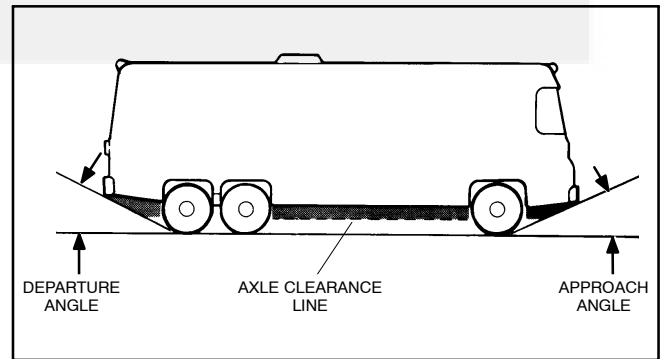

FIGURE 7-8. VEHICLE CLEARANCES
⚠ WARNING ***EXHAUST GAS IS DEADLY! Keep exhaust gases from entering the vehicle — Do not terminate the exhaust tail pipe underneath the vehicle or closer than 6 inches (153 mm) to openings into the vehicle. Route the exhaust system such that it is protected from damage (Figures 7-8, 7-9 and 7-10). Use approved materials only.***
6. To keep the tail pipe from being damaged, do not route it such that it protrudes into the approach or departure angles of the vehicle or below the axle clearance line (Figure 7-8).